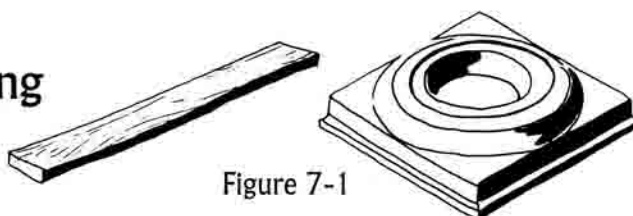
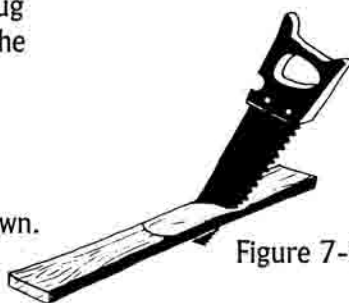

Figure 7-1
Figure 7-3
1. Score a line from inside the cap, or the center hole of the plug, on a small piece of scrap lumber—a 1x4 with smaller caps or a 1x6 with larger caps (Fig. 7-1 & 7-2). Then roughly cut out the plug (Fig. 7-3) and attach to the soffit where you want the capital secured (Fig. 7-4).